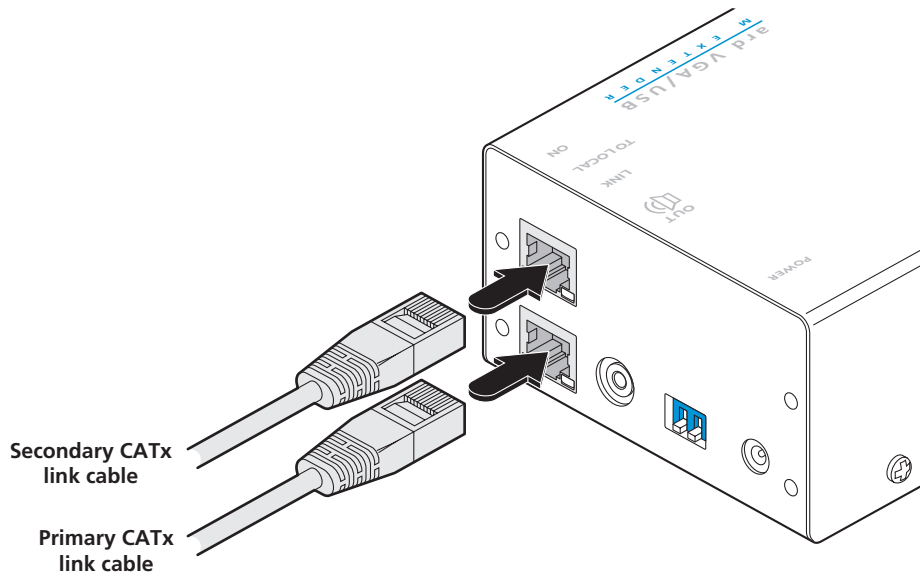

Figure 3-19. Attaching two CATx link cables to a dual-variant remote module. Ensure that the primary and secondary links from the local module are not crossed.
- [Dual-variant only] Connect a second category 5, 5e, 6, 7 or 7a link cable (up to 984 meters in length) to the upper socket on the remote module as shown in Figure 3-19: